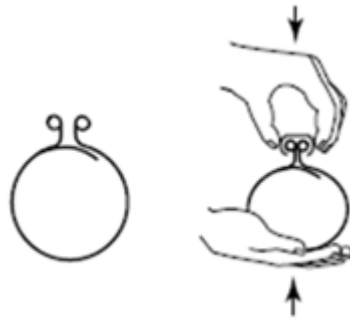

Figure 10
20. Remove the plastic backing from the heat shrink, then center it over the splice, slide on the metal channels from each end of the splice and secure with the channel joining clip. (Figure 10)